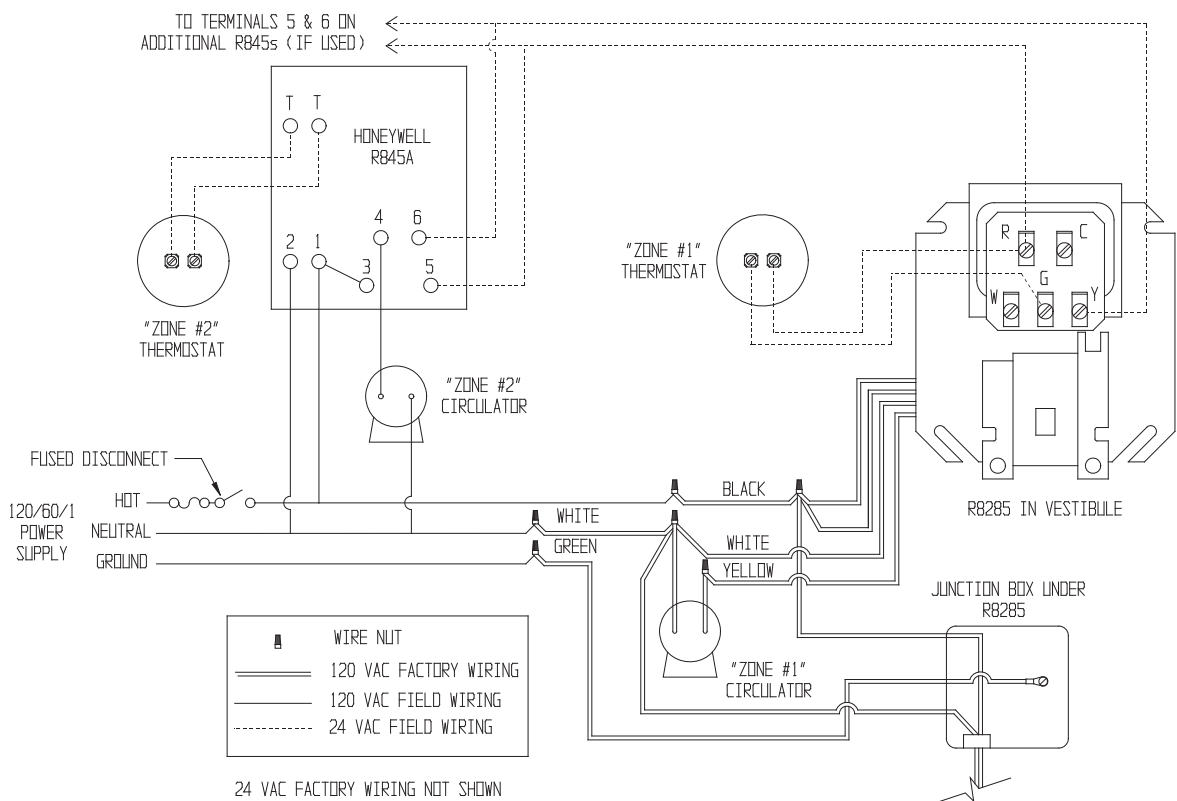

FIGURE 38: R8285 CONTROL SYSTEM - FIELD WIRING FOR TWO CIRCUATOR ZONES
- 1) Multiple Circulator Zones – Figure 38 shows wiring for two or more circulator zones using Honeywell R845As. One fewer R845A is used than the total number of circulator zones. A DPST Honeywell RA832A may be substituted in place of the R845A using the “X” and “X” terminals in place of the “5” and “6” terminals on a R845A.